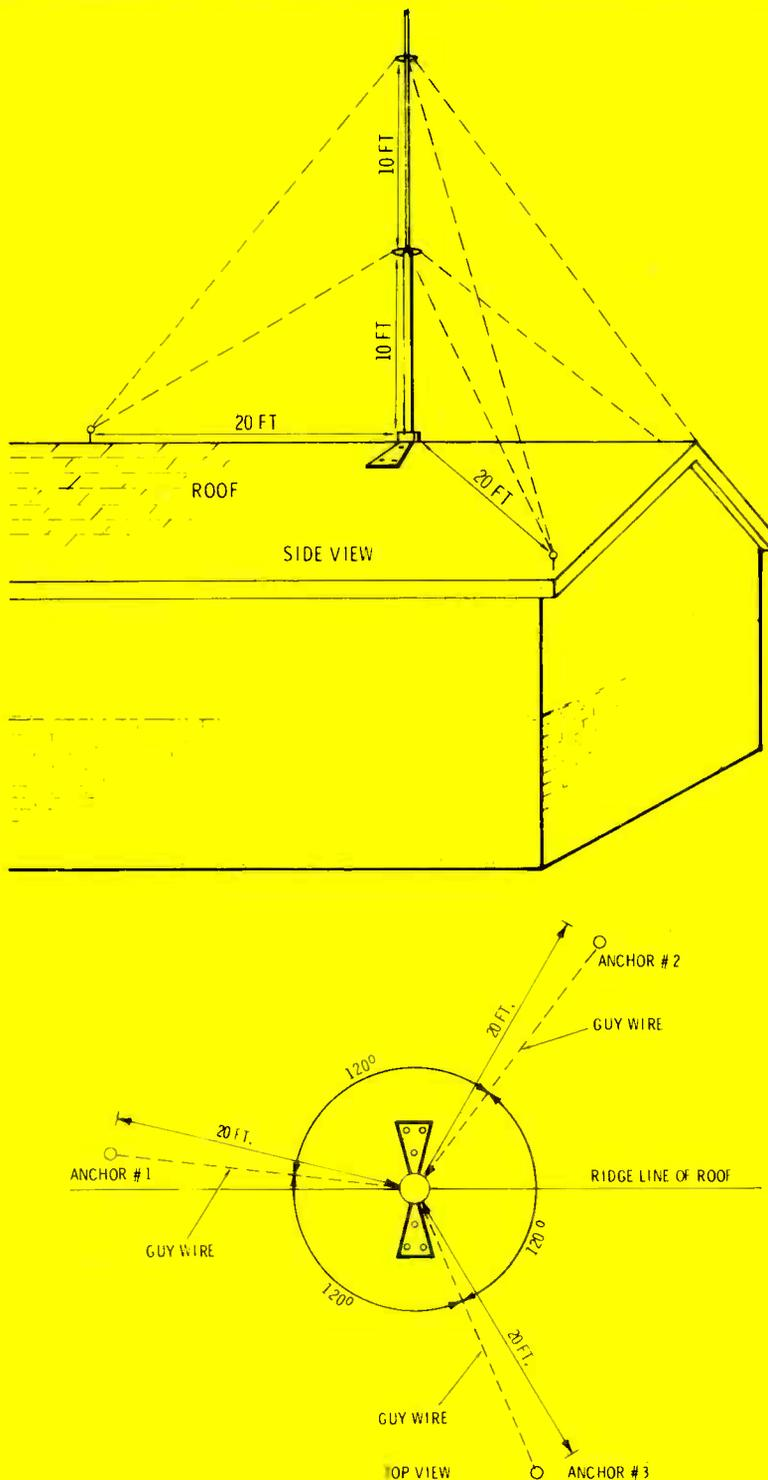

Fig. 8 These sketches show how the guy wires are to be arranged.
Lay out a guying plan as the sketch in Figure 8 shows. Each level of guying takes three wires. And each level has two criteria. (1) **The wires must be spread 120 degrees apart.** A narrower angle creates too much stress when winds blow from "between" the guy angles. (2) **A guy anchor should not be closer to the mast base than the height of its guy level.** That is, guy wires for the 10- and 20-foot mast levels should anchor at least 10 and 20 feet from the mast. If the shape or size of the roof does not permit the guy anchors to be spread according to these criteria, settle for a shorter mast or find places to anchor somewhere off the roof to anchor.